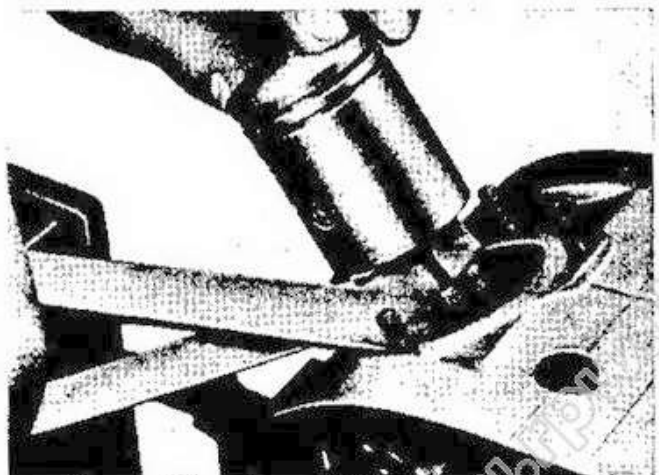

Fig. 55 Aligning connecting rod VI / 57 / 628
7. The connecting rod can be re-aligned with the straightening levers, part No. 0301-70700-00.1, as illustrated in fig. 55.